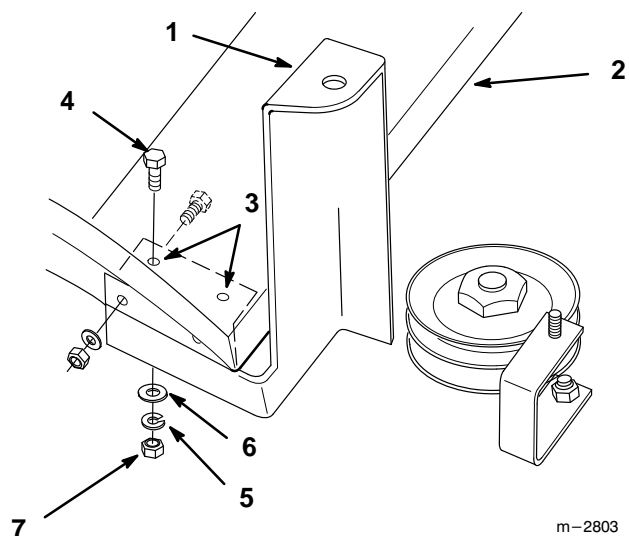

Figure 11
4. Remove hardware securing right fender to footrest. Save for installing spring bracket. Fasten spring bracket below footrest using previously removed hardware (Fig. 11).
5. Locate holes in footrest, covered over by footpads. Punch out footpad at holes and secure spring bracket with (2) 3/8"-16 x 1-1/4" (32 mm) bolts, washers, lock washers and locknuts